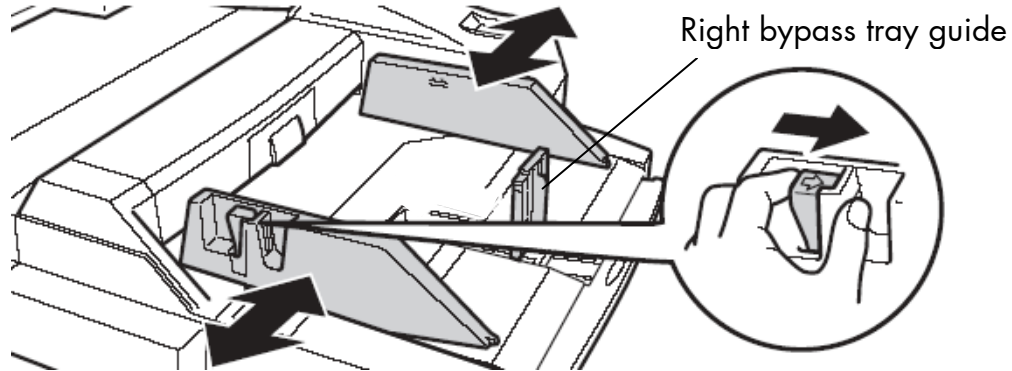

Fig. 3.2.5.b Unlocking and adjusting the paper guides
5. Set the right bypass tray guide to the size of the new print media, too (compare fig. 3.2.5.b; you have to press the lock lever of this guide during the setting procedure).